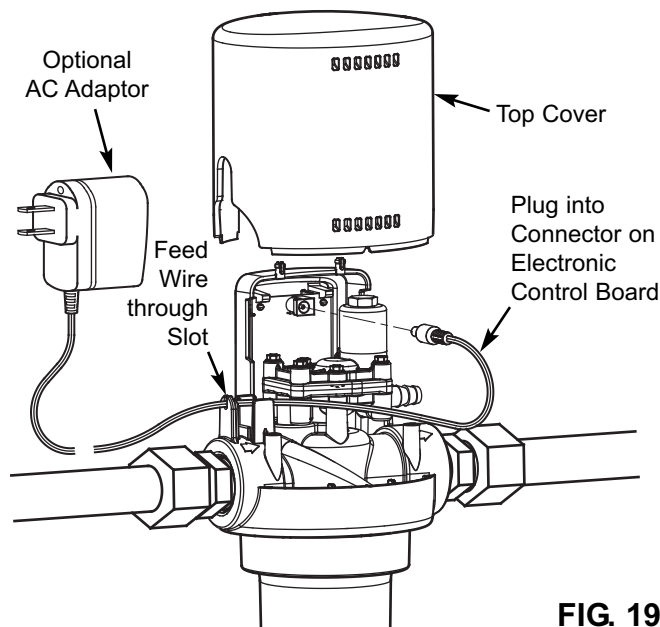

FIG. 19
An optional AC adaptor (P/N 7302835) is available to supply 9V DC power to the electronic control instead of using a 9V battery. This adaptor has 5 feet of wire. One end plugs into a household 120V AC, 60 Hz. outlet and the other end plugs into the back of the electronic control board, as shown in Figure 19. See the Repair Parts List page for ordering information.
1. Remove the top cover from the ASF by sliding it upward (See Figure 19).
3. Locate the small round plug on one end of the AC adaptor cable and insert this into the connector on back of the electronic control board (See Figure 19).
5. Before replacing the cover on the ASF, feed the wire through the small slot above the IN port of the ASF (See Figure 19).